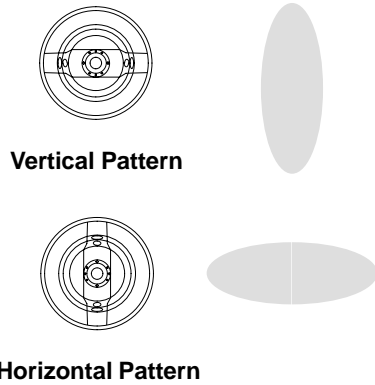

Fig. 5
2. To adjust the air cap for a vertical or horizontal spray pattern, first make sure the pressure is relieved. Then loosen the air cap retaining nut, and rotate the air cap as directed in Fig. 5. Tighten the retaining nut until the air cap is held firmly in place; you should not be able to rotate the air cap horns by hand.